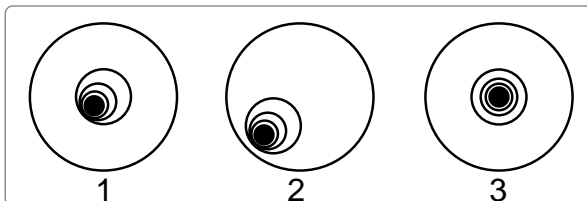

Fig. 31a: Defocused star images. Misaligned (1, 2), Aligned
- b. While looking at the defocused star image, notice which direction the darker shadow is offset in the ring of light or notice which part of the ring is the thinnest (**1, Fig. 31a**). Place your index finger in front of the telescope so that it touches one of the collimation set screws. You will see the shadow of your finger in the ring of light. Move your finger around the edge of the black plastic secondary mirror support until you see the shadow of the finger crossing the thinnest part of the ring of light. At this point, look at the front of the telescope where your finger is aiming. It will either be pointing directly at a set screw, or it will be between two set screws aiming at the set screw on the far side of the black plastic secondary mirror support. This is the set screw that you will adjust.
- c. Using the Autostar II's Arrow keys at the slowest slew speed, move the defocused image to the edge of the eyepiece field of view (**2, Fig. 31a**), in the same direction as the darker shadow is offset in the ring of light.
- f. When you bring the image to center (**3, Fig. 31a**), carefully examine the evenness of the ring of light (concentricity). If you find that the dark center is still off in the same direction, continue to make the adjustment in the original turning direction. If it is now off in the opposite direction, you have turned too far and you need to turn in the opposite direction. Always double check the image in the center of the field of the eyepiece.